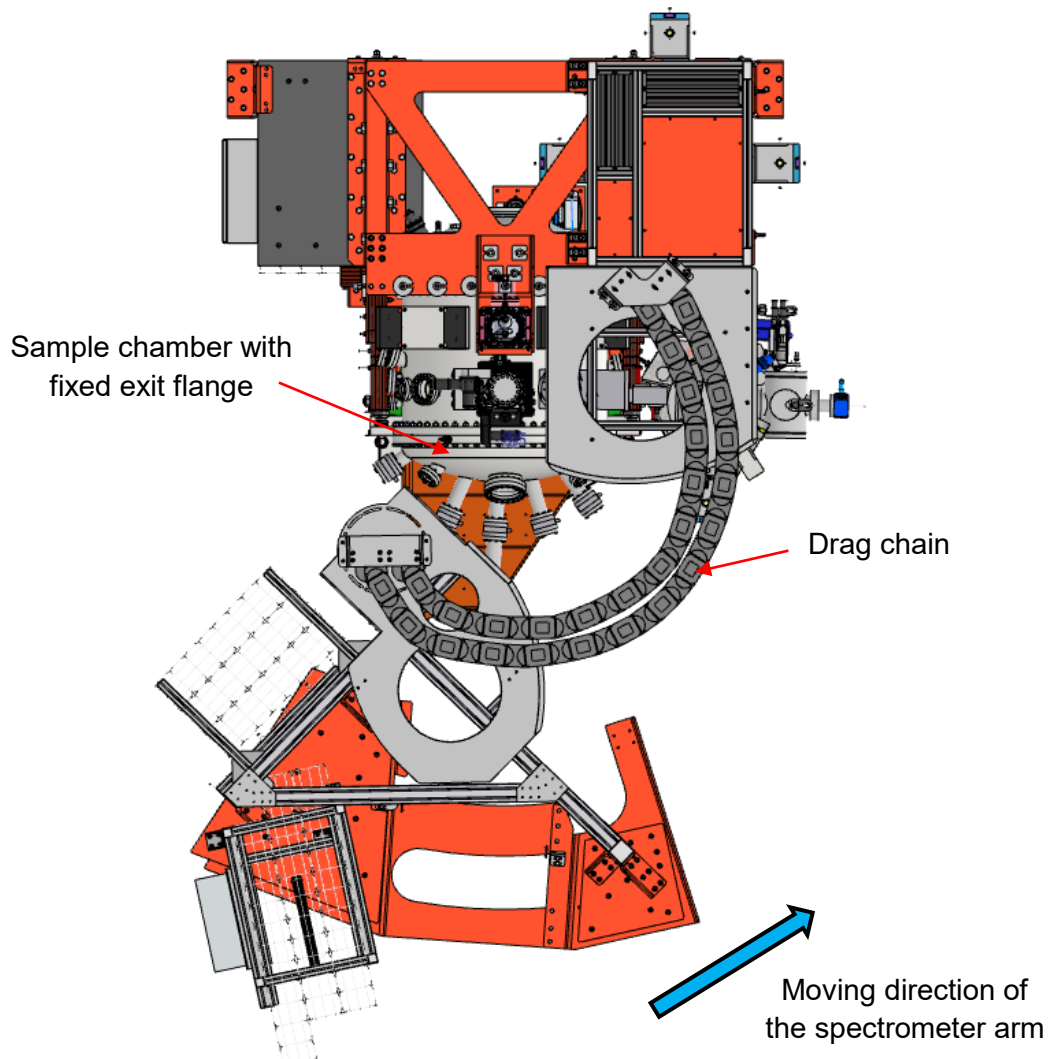

Figure 17: Top view of the sample chamber. The blue arrow indicates the recommended moving direction of the spectrometer arm.
2. Before proceeding to the next step, the spectrometer arm has to be moved out of the way in the direction indicated by the blue arrow in Figure 17. This moving direction should be preferred because it allows better access to the crane.